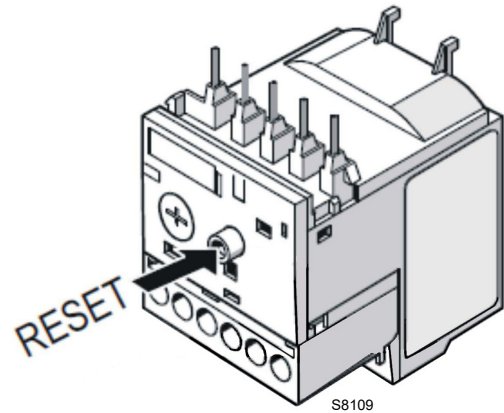

Fig. 36
- To reset, in the case of an intervention of the thermal relay, press the button **"RESET"** (Fig. 36).